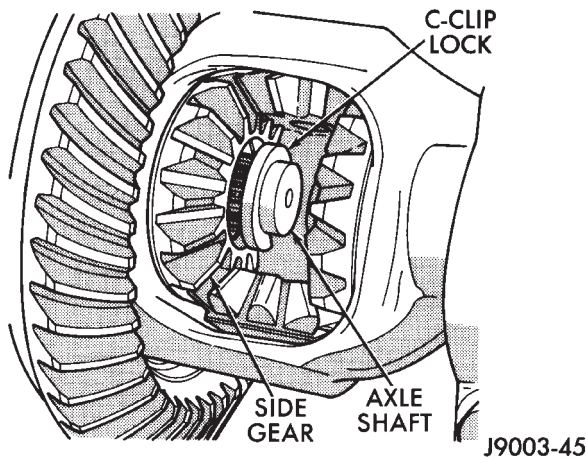

Fig. 7 Axle Shaft C-Clip Lock
(7) Force the axle shaft in toward the center of the vehicle. Remove the axle shaft C-clip lock from the axle shaft (Fig. 7).
(8) Remove the axle shaft. Use care to prevent damage to the axle shaft bearing and seal, which will remain in the axle shaft tube.
(9) Inspect axle shaft seal for leakage or damage.